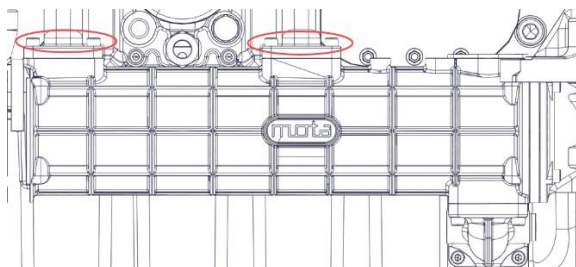

Figure 154-10.
7. Torque the upper bolts to 18 ft/lbs and ensure there is no gap for the lower elbow sealing surfaces (Figure 154-10).